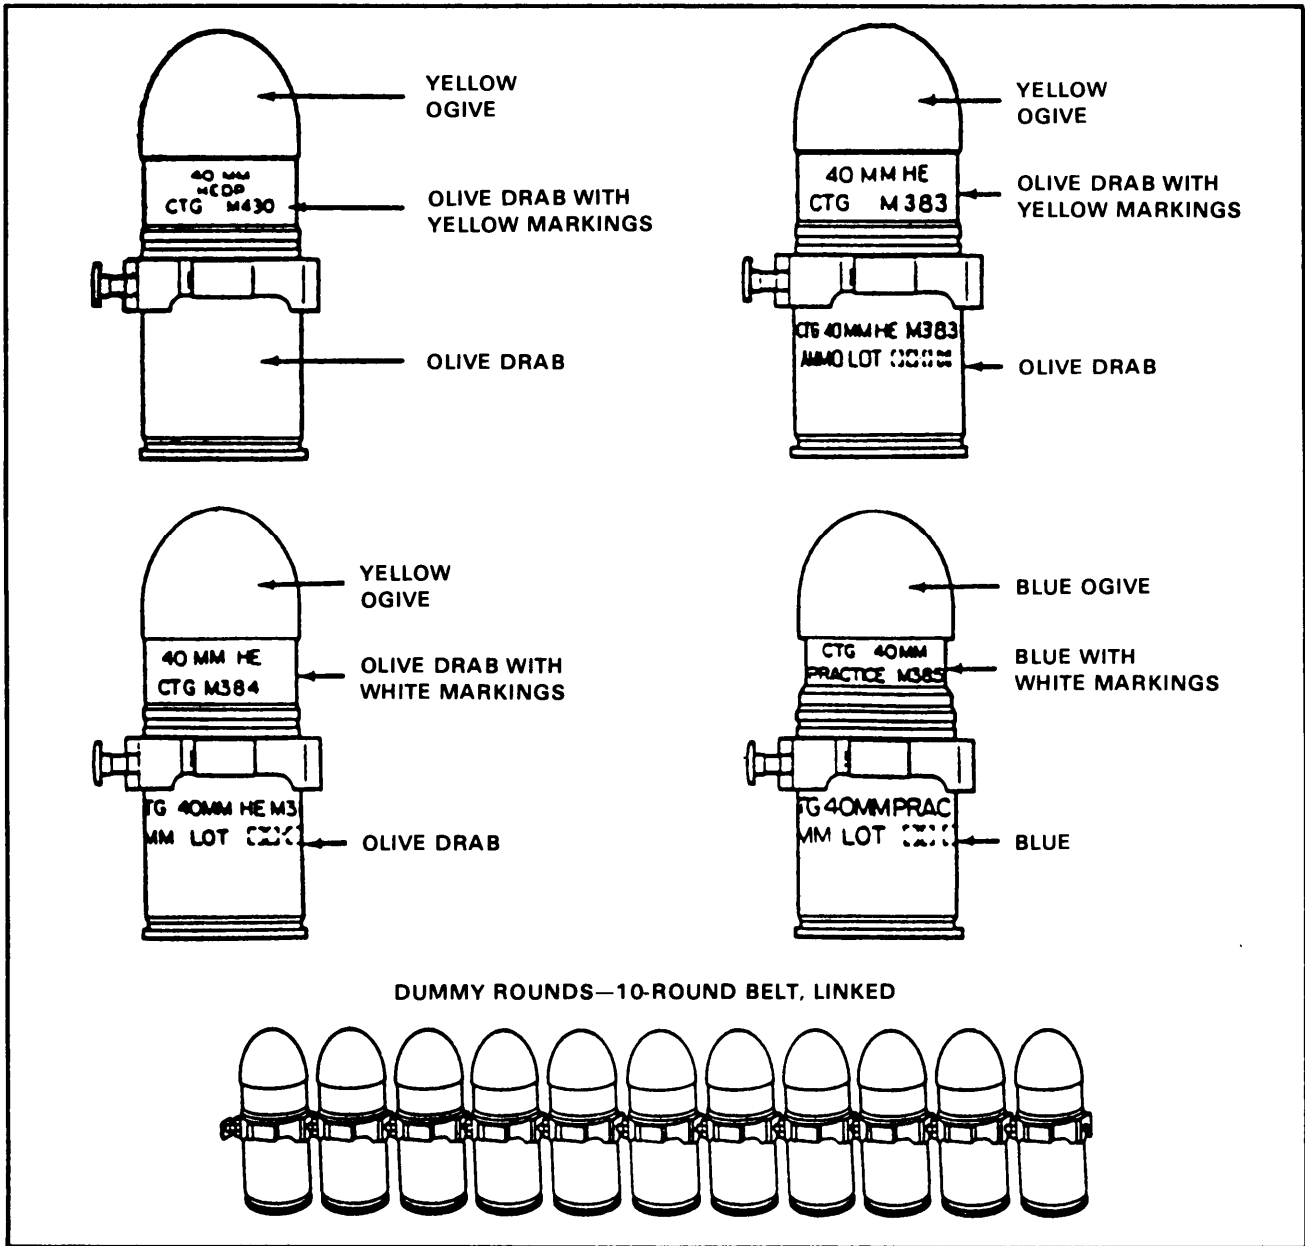

Figure 1-5. 40-mm cartridges.
d. The MK 19 uses 40-mm cartridges (Figure 1-5):